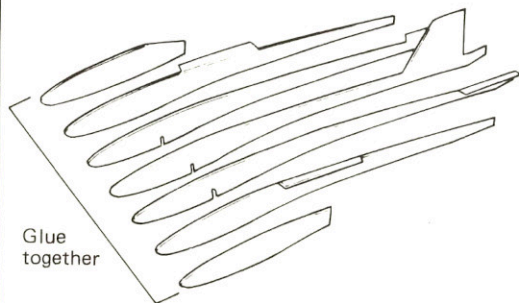
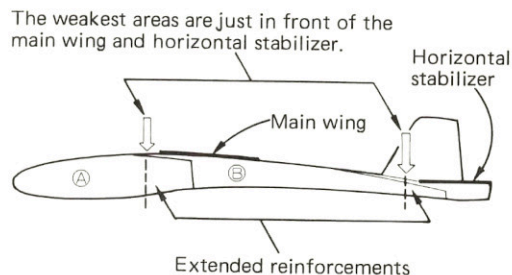

Fig. 22 Composition of the fuselage
Fig. 23 Reinforcement of easily bendable parts
To meet these requirements, the actual construction of the plane body, as shown in Figure 22, is made up of layers of heavy paper. There are more layers in the nose for added strength. In Figure 23, the dashed lines show where the glider tends to bend easily. To prevent this, parts (A) and (B) extend past the arrow marks for reinforcement. This flat type of body is superior to the monocoque (tube body) as it is easy to construct, repair, launch and it also has less wind resistance.